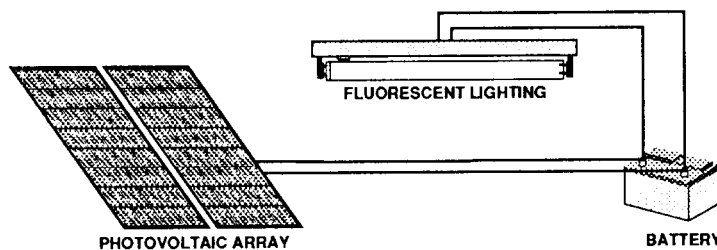

FIGURE 2-6
- 2.2.3 Self-Regulated DC System. If battery storage is added to the system, some means must be used to prevent overcharging the batteries. The simplest way to do this is to use self-regulating modules. These modules are designed to deliver a voltage that is too low to overcharge the battery. (Figure 2-6). Careful matching of component sizes and loads is critical.